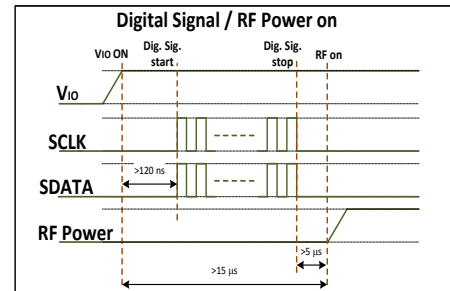

Figure 2 Digital Signal / RF Power-On Detail
2. VIO must be applied for a minimum of 120 ns before sending SDATA/SCLK to ensure correct data transmission. (see figure 2)
3. VIO must be applied for a minimum of 15 μ s before applying RF power. (see figure 2)
4. Wait a minimum of 5 μ s after RFFE bus is idle to apply an RF signal. (see figure 2)